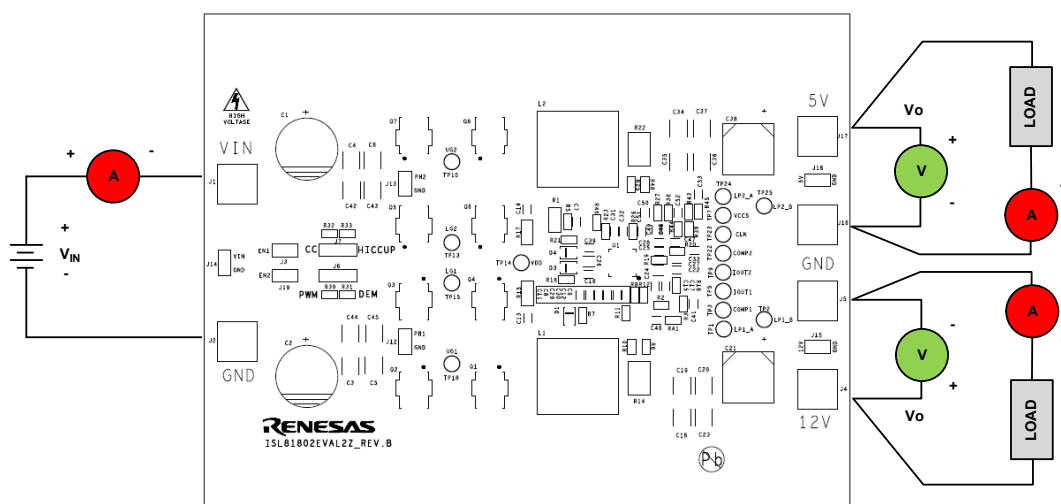

Figure 3. Proper Test Setup
As shown in Figure 3, the 6V to 80V V_{IN} is supplied to J1 (+) and J2 (-). The regulated 12V output is on J4 (+) and J5 (-), while the regulated 5V output is on J17 (+) and J16 (-). They both can supply up to 10A to the load. Due to the high power efficiency, the evaluation board can run at 20A in total continuously without airflow at ambient room temperature conditions.
1. Jumper J6 provides the option to select PWM or DEM. Jumper J7 provides the option to select a constant current limit or HICCUP. See Table 2 for the operating options. Ensure that the circuit is correctly connected to the supply and electronic loads before applying any power. See Figure 3 for the proper setup.